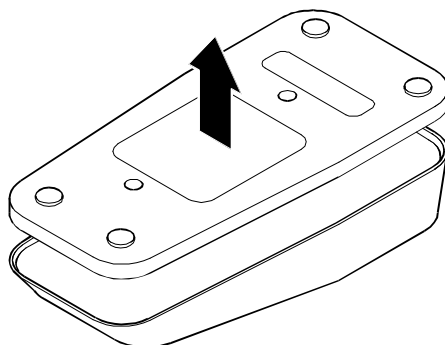

Figure 12: Case removal
2. (Figure 12) Remove the case from the cover assembly.